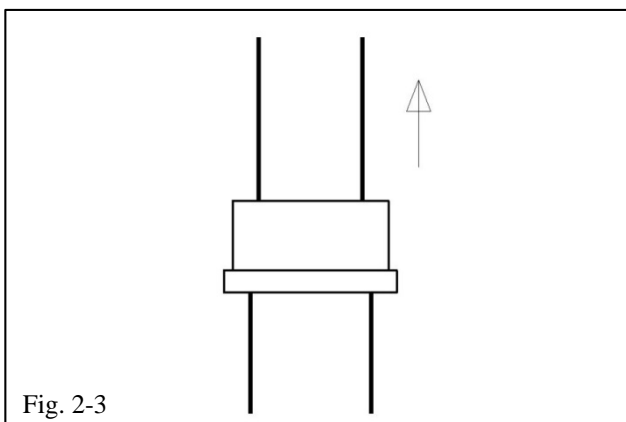

Fig. 2-3
- (e) Place a supplied piston shaft collet/spacer over the top of the piston shaft (Fig. 2-3). The larger diameter portion (if present) should face downward.